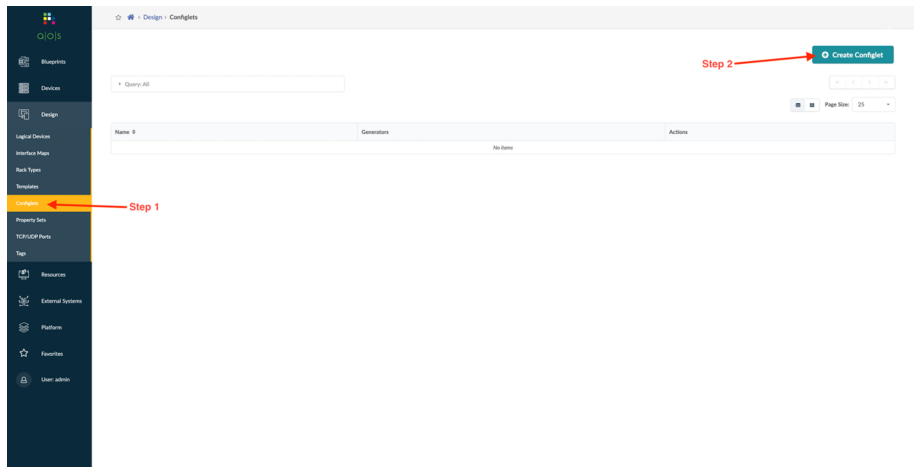

Figure 7.18 Creating a New Configlet
Step 1: Go to Design > Configlet. See Figure 7.18.